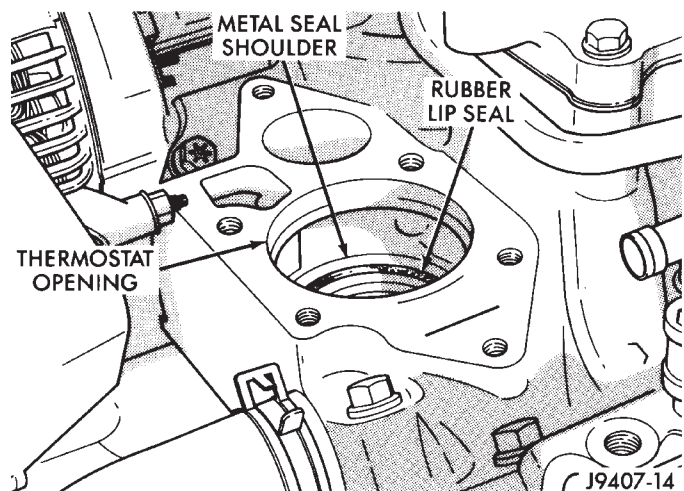

Fig. 71 Thermostat Seal—8.0L V-10 Engine
A rubber lip-type seal with a metal shoulder is pressed into the intake manifold beneath the thermostat (Fig. 71).
- (1) Clean mating areas of intake manifold and thermostat housing.
- (2) Check the condition (for tears or cracks) of the rubber thermostat seal located in the intake manifold (Fig. 71) (Fig. 73). The thermostat should fit snugly into the rubber seal.
- (3) If seal replacement is necessary, coat the outer (metal) portion of the seal with Mopar® Gasket Maker. Install the seal into the manifold using Special Seal Tool number C-3995-A with handle tool number C-4171.